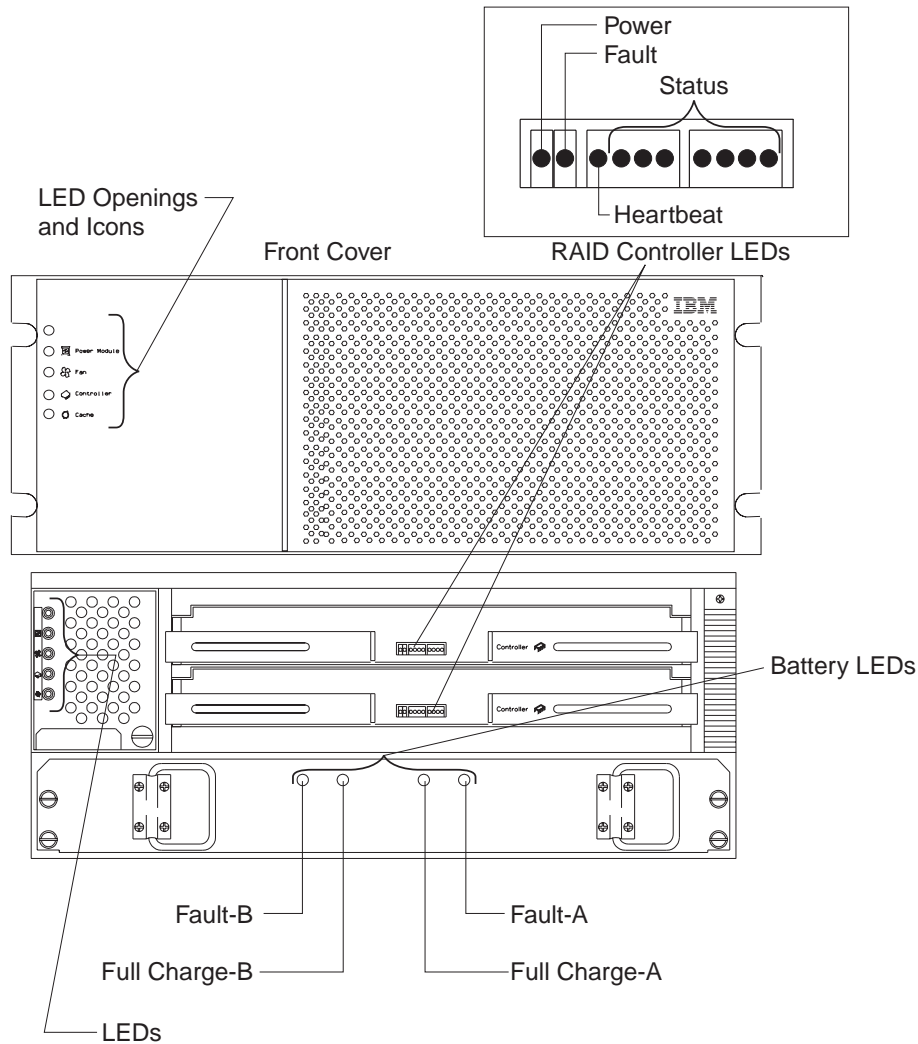

Figure 16. LEDs on the front
2. Use Figure 16 on page 28 and Table 1 on page 30 to check the status LEDs on the front of the controller unit. Each RAID controller CRU has its own set of status LEDs. Under normal conditions, the green Power LED (left light) is on and the amber LEDs are off.
3. Remove the front cover (see Figure 14 on page 24), check the RAID controller CRU LEDs (see Figure 16 on page 28), and answer the following questions.